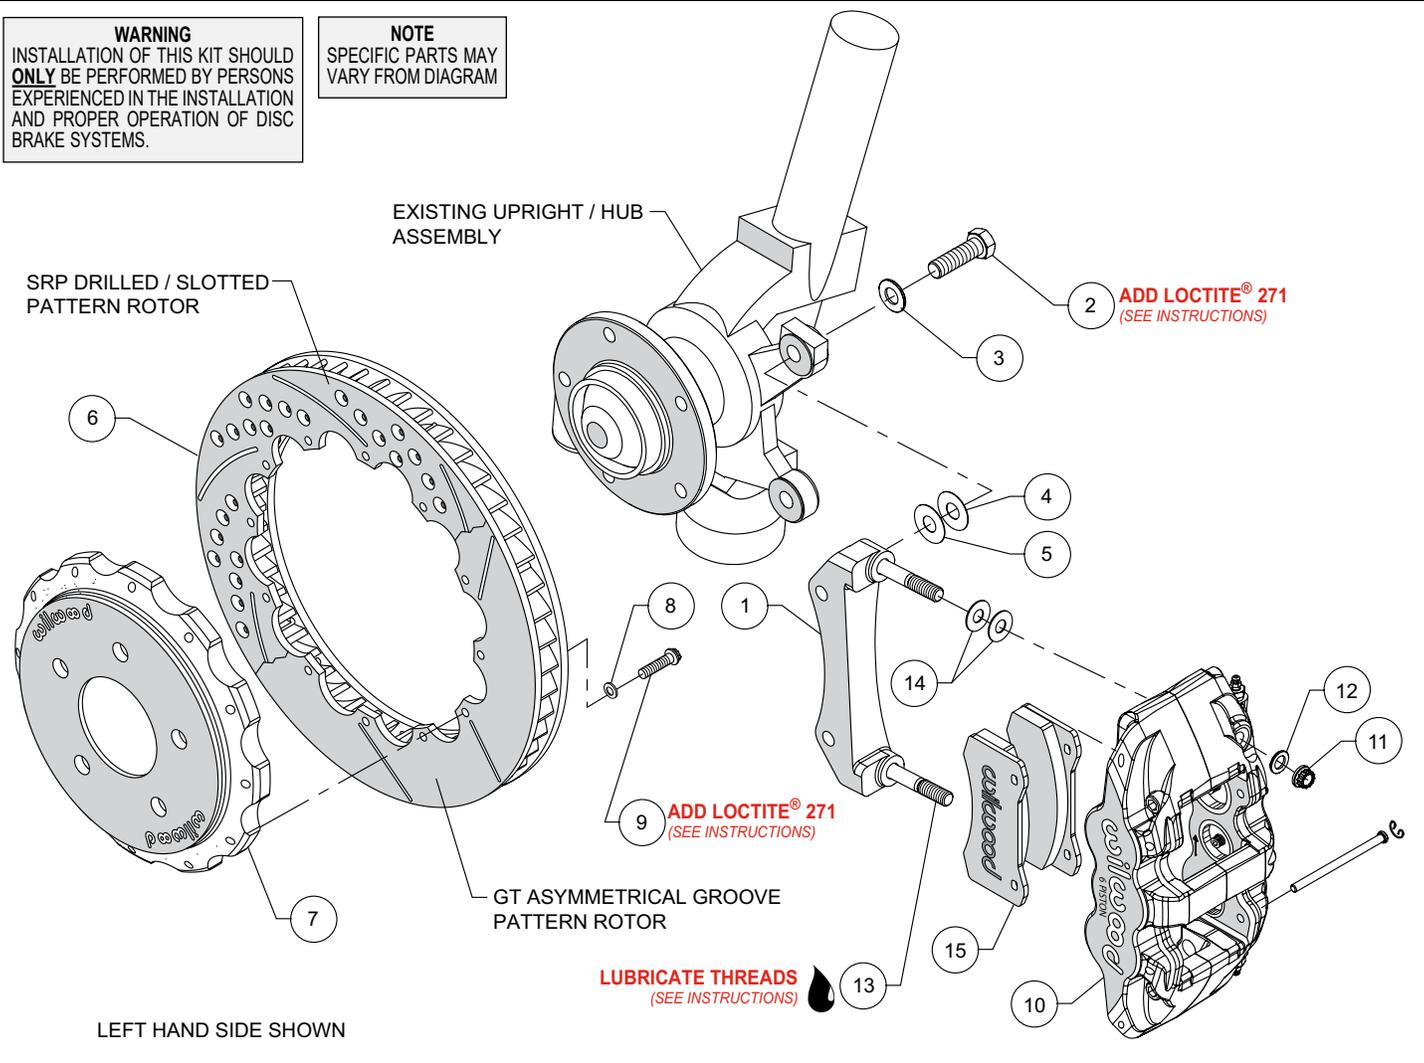
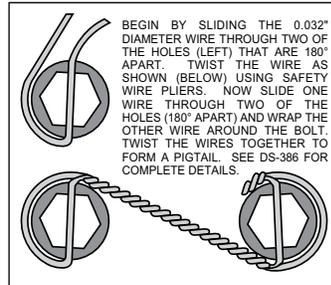

Figure 1. Typical Installation Configuration
Figure 3. Safety Wire Diagram
Assembly Instructions (numbers in parenthesis refer to the parts list and Figure 1 on the preceding pages):
- The caliper mount bracket (1) should initially be installed with clean, dry threads on the mounting bolts. Orient the bracket as shown in Figure 1 and Photo 1 and install using mount bolts (2) and washers (3). Initially place one each .033" thick shim (4), and .015" thick shim (5) on each bolt between the bracket and upright, Figure 1. Temporarily tighten the mounting bolts. **NOTE: The bracket must fit squarely against the mount bosses on the upright.** Inspect for interference from casting irregularities, machining ridges, burrs, etc. Later, after the caliper alignment has been checked, the mount bolts will be secured using red *Loctite*® 271.
- Orient the rotor (6) and the hat (7) as shown in Figure 1 and Photo 2. Attach rotor to hat using bolts (9) and washers (8). Apply red *Loctite*® 271 to the bolt threads and torque to 155 in-lb using a criss-cross pattern. For an added measure of security, the bolts may be safety wired using standard 0.032 inch diameter stainless steel safety wire as shown in Figure 3. Please refer to Wilwood's data sheet DS-386 (available at www.wilwood.com/Pdf/DataSheets/ds386.pdf) for complete safety wire installation instructions.
- **NOTE: This kit contains distinct right and left hand calipers that must be mounted in a specific direction, as described below.** Lubricate the caliper mounting studs (13) with lightweight oil. Initially place two .030" thick shims (14) on each stud as shown in Figure 1 and Photo 4. Mount the caliper (10) onto the bracket (1) using lock nuts (11) and washers (12), Figure 1. Ensure that the caliper is mounted so that the largest pistons are at the rotor exit end of the caliper, in relation to the direction of rotor rotation. Temporarily tighten the lock nuts and view the rotor through the top opening of the caliper. The rotor should be centered in the caliper, Photo 5. If not, adjust by adding or subtracting shims (4 and/or 5) between the bracket and the upright. Always use the same amount of shims on each of the two mounting bolts. Once the caliper alignment is correct, remove the bracket mounting bolts one at a time, apply red *Loctite*® 271 to the threads, and torque to 60 ft-lb.
- Remove the two pad retaining pins from the caliper (10) by carefully popping out the pin retaining clips and sliding out the pins. Insert the brake pads (15) into the caliper from the bottom, Figure 1 and Photo 6. With the friction material facing the rotor, secure the brake pads in place with the pad retaining pins and clips, Photo 7. Reinstall the caliper onto the caliper mounting bracket and temporarily tighten the lock nuts. Check that the top of the brake pad is flush with the outside diameter of the rotor, Photo 8. If not, adjust by adding or subtracting shims (14) between the caliper and the bracket. After the caliper pad height is set, torque the caliper lock nuts (11) to 47 ft-lb.